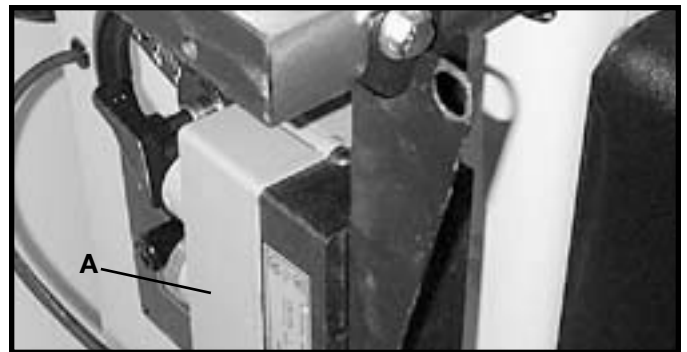

Fig. 10
1. The on/off switch (A) Fig. 10, is shipped attached to a mounting bracket at the right side of the machine.